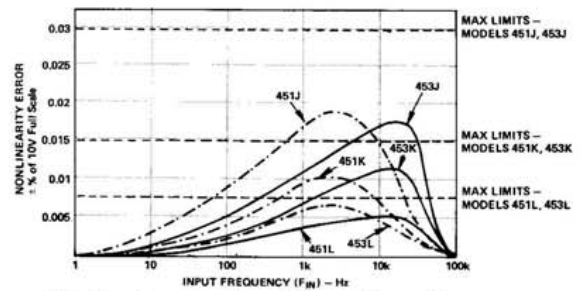

Figure 11. Nonlinearity Error Versus Input Frequency
**Nonlinearity:** Nonlinearity error is specified as a % of 10V full scale output voltage and is guaranteed for each model over the specified input range. Model 451 is rated over 1Hz to 11kHz range and model 453 is rated over 1Hz to 110kHz range. Typical nonlinearity performance is shown for all models in Figure 11.